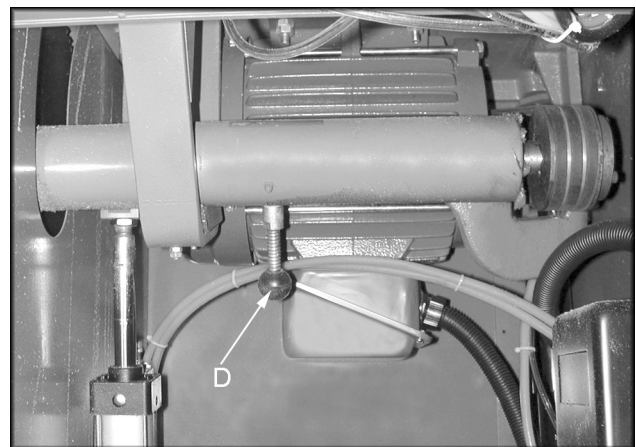

Figure 6
4. Rotate the arbor and push in the handle (D, Figure 6) until it engages a detent in the shaft.